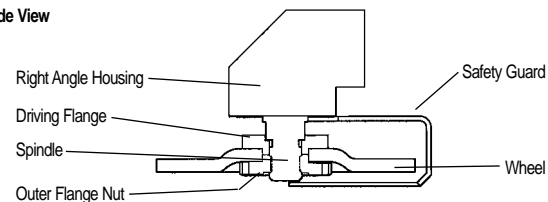

Fig. 1
7. **With 1/8" thick wheels & less**, install outer flange nut with raised boss facing away from abrasive wheel and secure flange firmly against wheel. (See fig.1)